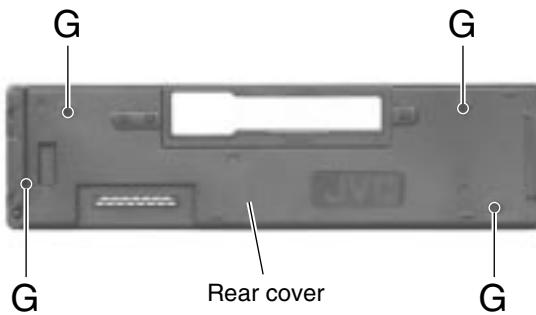

Fig.10
(See Fig.10 to 12)**
- Raise the part **k** of the reel base assembly slightly and remove the selector link (B) on the front side of the cassette mechanism assembly by turning it as shown in Fig.10.